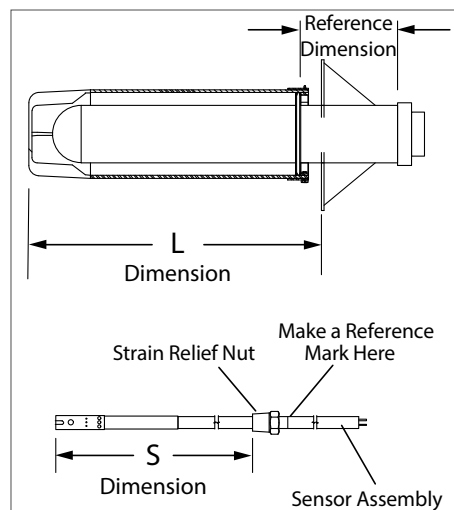

Figure 18 - Jack Sensor Installation Measurements
- a. Measure the L dimension on the jack. See Figure 18.
- c. Make a reference mark as shown in Figure 18.
- b. Measure the reference dimension. See Figure 18.